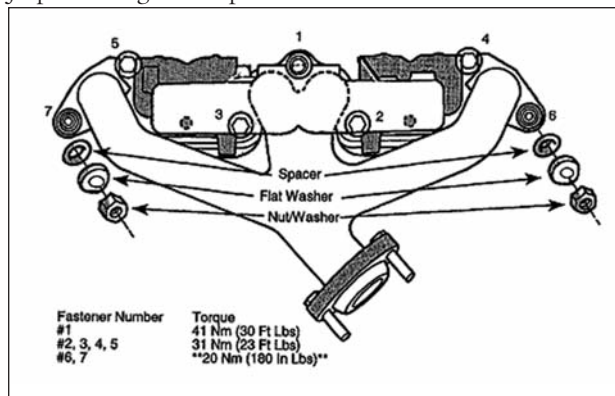

Figure 4 Replace both outer mounting studs, clamps and nuts on Jeep 2.5L engines with new parts and tighten the outer studs to a reduced torque of 180 in.lbs.
6. Torque the bolts in the order and specification as listed in **Figure 4**.